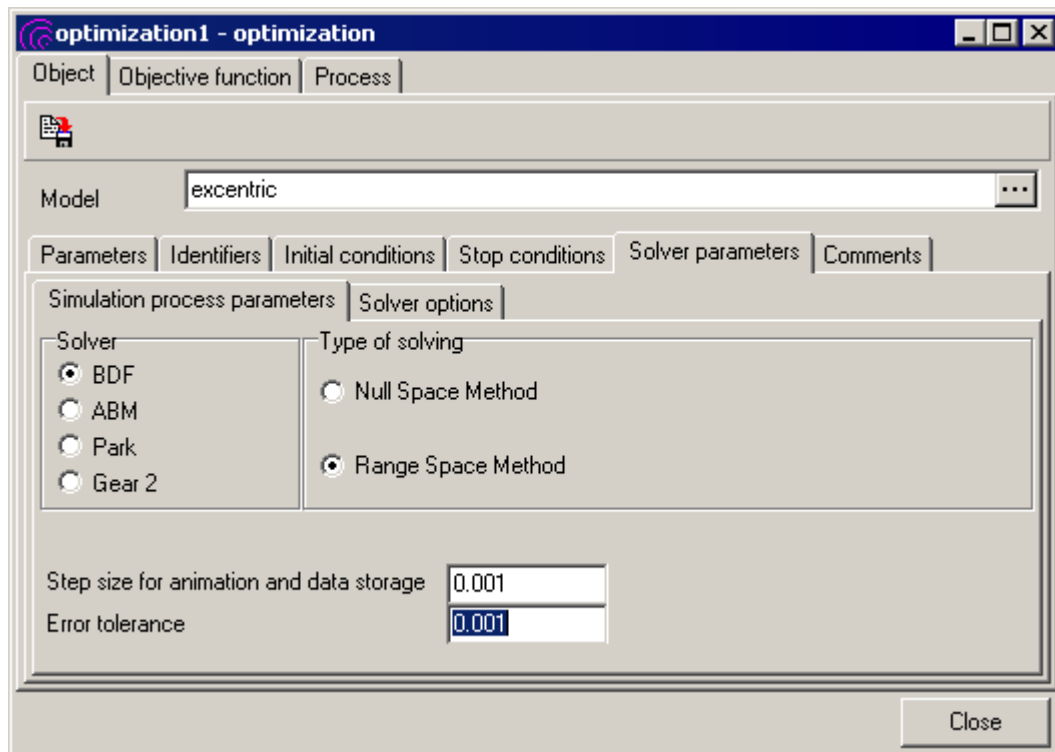

Figure 5.10. Optimization project: solver parameters
2. Set **Step size for animation and data storage** to **0.001** s, see Fig. 5.10. Thus we will have approximately 125 point per period that is quite enough.